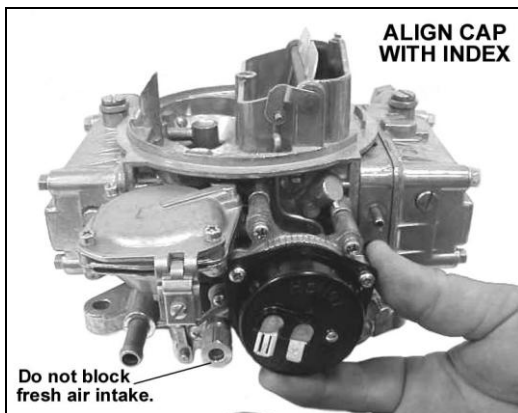

Figure 9
10. Rotate the choke cap until the mark on the cap aligns with the index on the choke housing. Tighten the retaining screws so the cap cannot rotate as shown above in Figure 9.